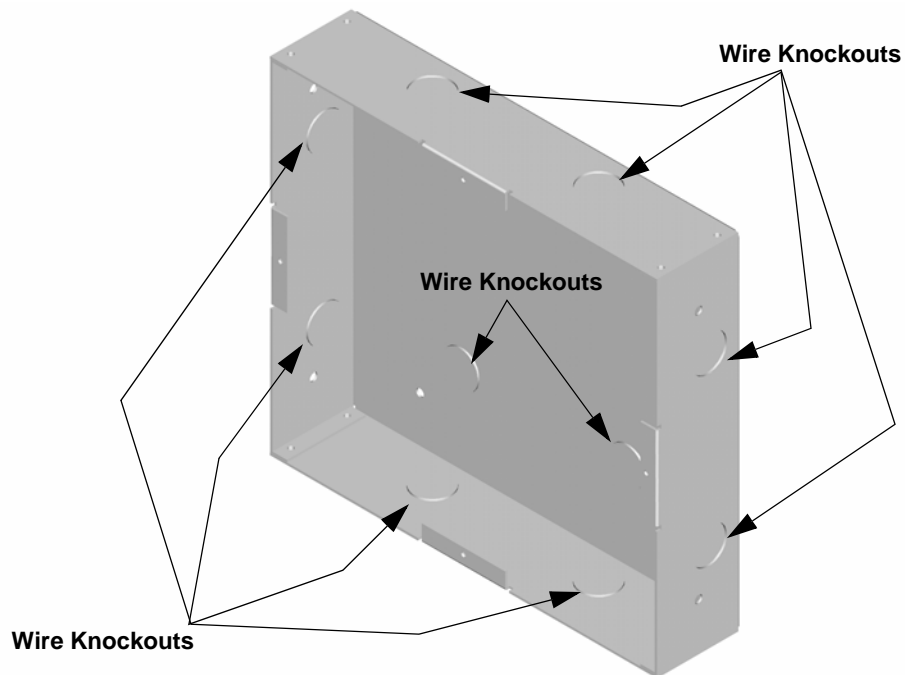

Figure 4.23 Back Box Knockout Locations
2. Remove knockout holes as needed for wires. See Figure 4.23 for backbox knockout locations.